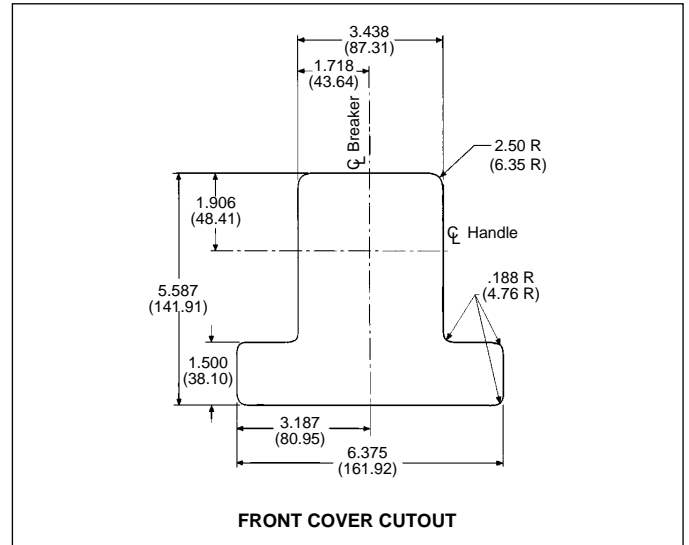

Figure 2-6 Circuit Breaker Escutcheon Dimensions
- a. For individual surface mounting, drill mounting panel using the drilling plan shown in Figure 2-5. For dead front cover applications, cut out cover to correct escutcheon dimensions, see Figure 2-6.
- a. For individual surface mounting, drill the mounting panel using the drilling plan shown in Figure 2-7. For dead front cover applications, cut out cover to correct escutcheon dimensions, see Figure 2-6.